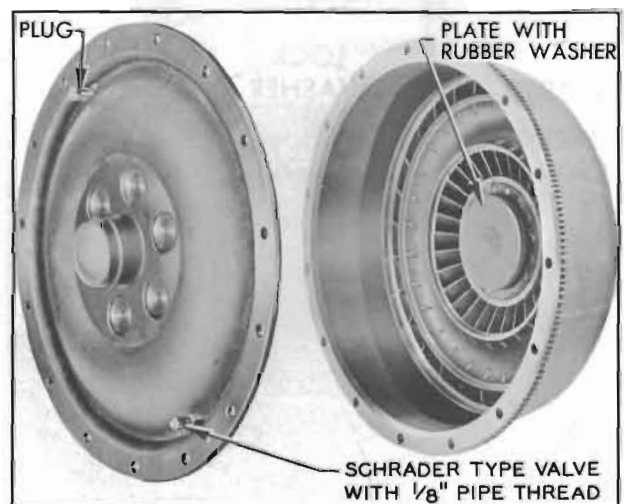

Figure 5-53—Plate and Plugs Installed in Pump and Cover
2. Install plate with washer over inside surface of pump hub (Figure 5-53), then install pump cover with seal and tighten all bolts to 25-30 ft. lbs. torque in sequence shown in Figure 5-115.
3. Install one drain plug, and install a Schrader type valve with  $\frac{1}{8}$ " pipe thread in other drain hole. Tighten parts securely. See Figure 5-53.